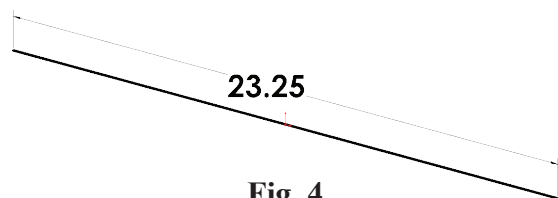

Fig. 4
Step 6. Click **Smart Dimension**  (S) on the Sketch toolbar.
Step 7. Dimension line **23.25**, **Fig. 4**.